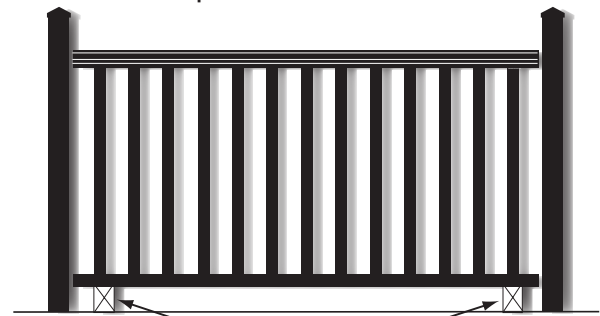

Figure 1
- 2.) Cut two 3" tall temporary wood spacer blocks (not included) to insert under ends of railing sections to temporarily assist in aligning section *Figure 1*.
- 4.) Slide rail section and brackets between posts and on top of temporary wood spacer blocks. (Position wood spacer blocks next to installed aluminum posts) *Figure 1*.